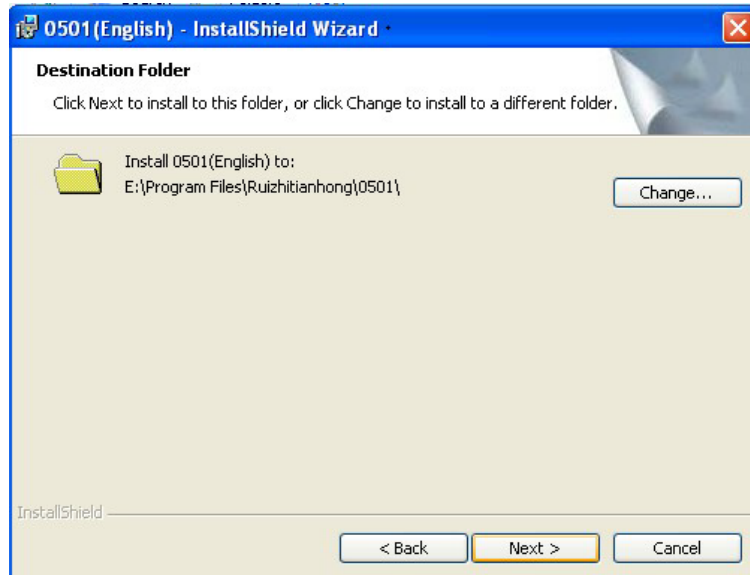

Figure 2-1-3
(3): Into the installation directory selection, click "Change" to change the installation directory (Figure 2-1-3);